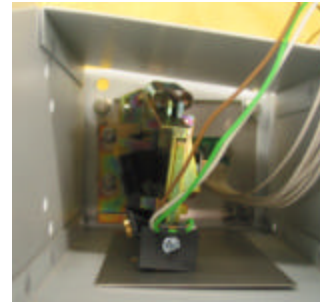

Figure 6
5. Mount the coin drop on the coin meter mounting studs and tighten the locknuts (Figure 6). Be sure the slots in the faceplate line up with the slots in the coin drop. Test the alignment by inserting a quarter into the slot and verifying that it drops into the coin box compartment